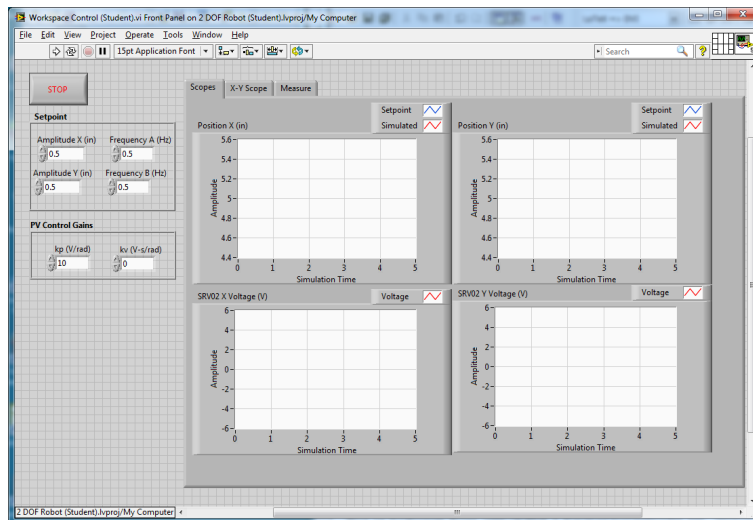

Figure 4.7: VI used to run workspace control on 2 DOF Robot
The *Workspace Control* VI shown in Figure 4.7 implements the workspace control on the 2 DOF Robot system. It interfaces with the DC motor and sensors of the system.
4. Open *Workspace Control (Student).vi* shown in Figure 4.7.